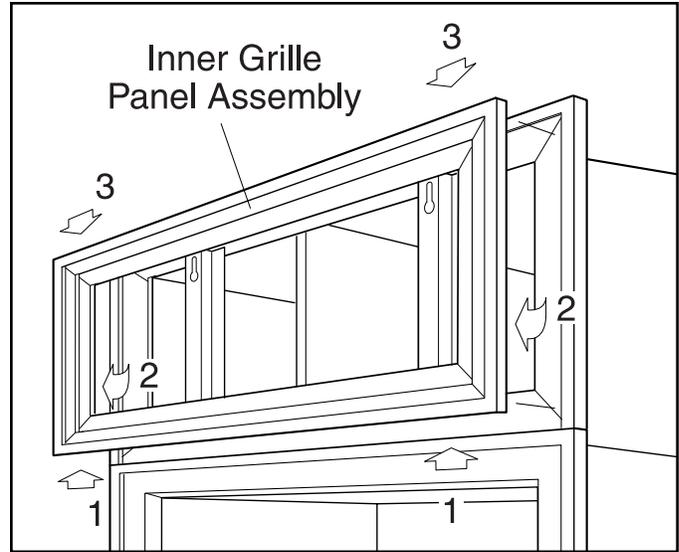

Figure 6-70. Inner Panel Grille Removal
Then, pull down and out of key-hole slots at the top (3). (See Figure 6-70)